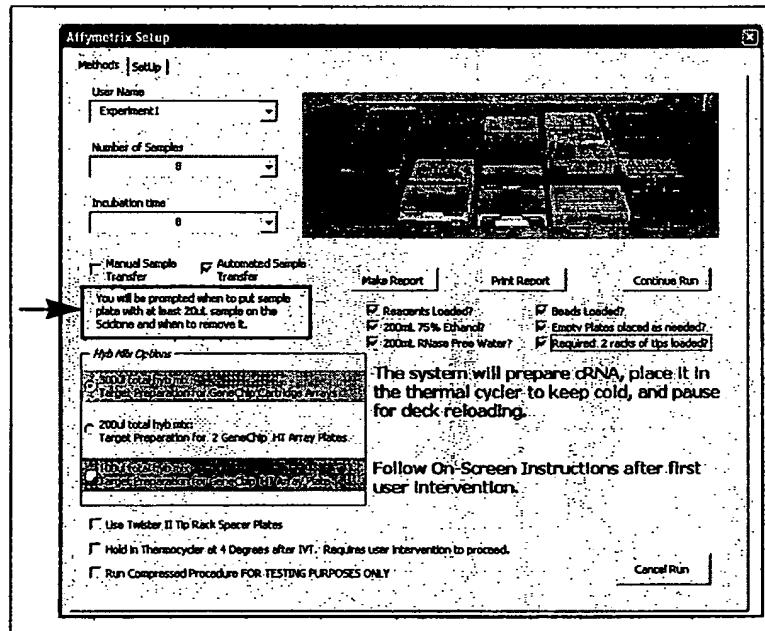

Figure B.1
2. Select the protocol parameters to enable the Continue Run button (Figure B.1).